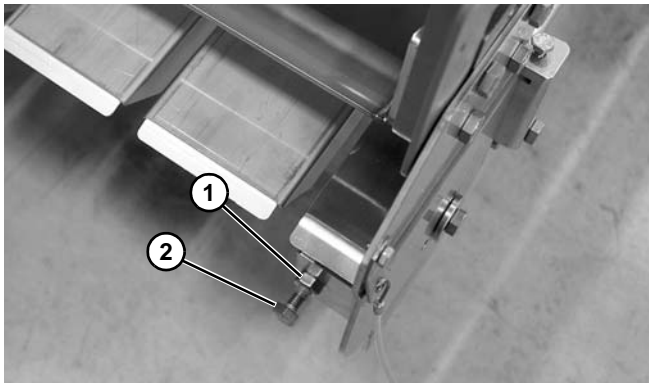

Figure 83
- If needed, raise idler tail and loosen nut (Figure 83, item 1). Tighten or loosen bolt (Figure 83, item 2) to move idler tail up or down to level with conveyor bed rail. Ensure that nuts are tight after leveling.